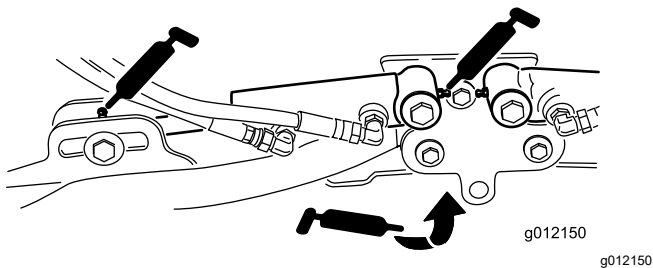

Figure 108
- Cutting-unit lift-arm cylinders (2 each) (Figure 108)
- Lift-arm pivots (1 each) (Figure 108)